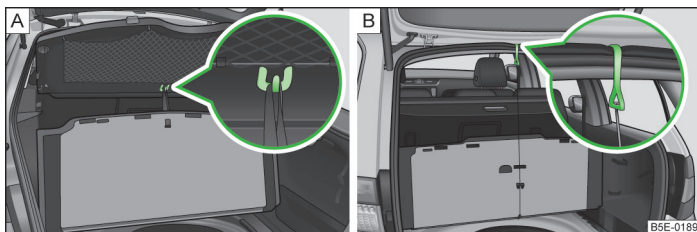

Fig. 82 Fixing the floor covering: Octavia/Octavia Estate
- Octavia: with the loop on a hook on the luggage compartment cover » Fig. 82 - .
- Octavia Estate: with the hook on the frame of the boot lid » Fig. 82 - .